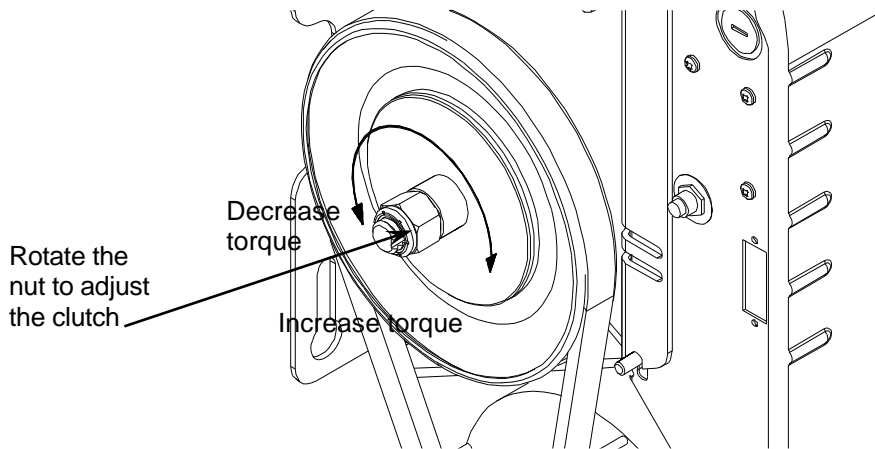

Figure 21 Clutch adjustment
1. Adjustment of clutch is done by rotating the nut located at the end of the input shaft where the pulley 7" is located (Figure 21).